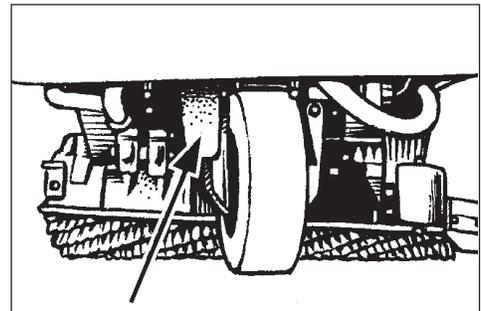

Figure 48
NOTE: The solution tank does not have a drain hose. It is drained through the filter body located in the front and underneath the machine (see figure 48).
4. Unscrew the filter housing by turning it counter-clockwise (see figure 48). Remove the filter screen from the housing and clean it carefully.